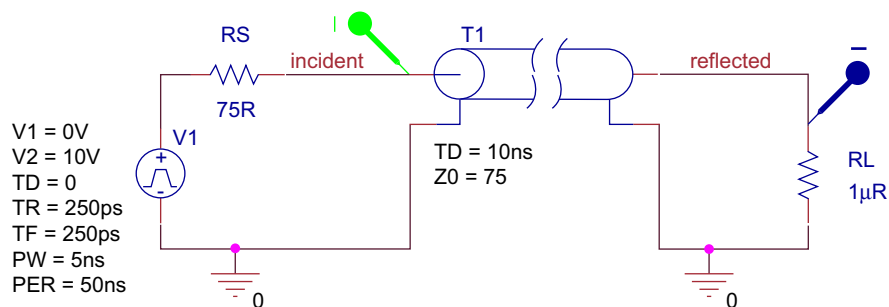

FIGURE 17.14
- In Capture, delete the voltage markers and place current markers on the input pin (incident) to T1 and the top pin of the RL resistor (Figure 17.14).